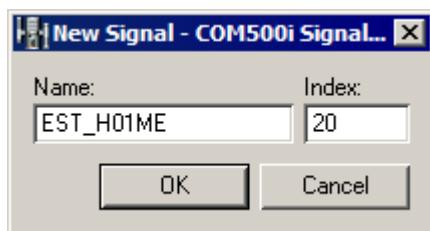

Figure 32: New Signal dialog
1. Select **New** from the **Signal** menu. This opens the **New Signal** dialog shown in Figure 32.